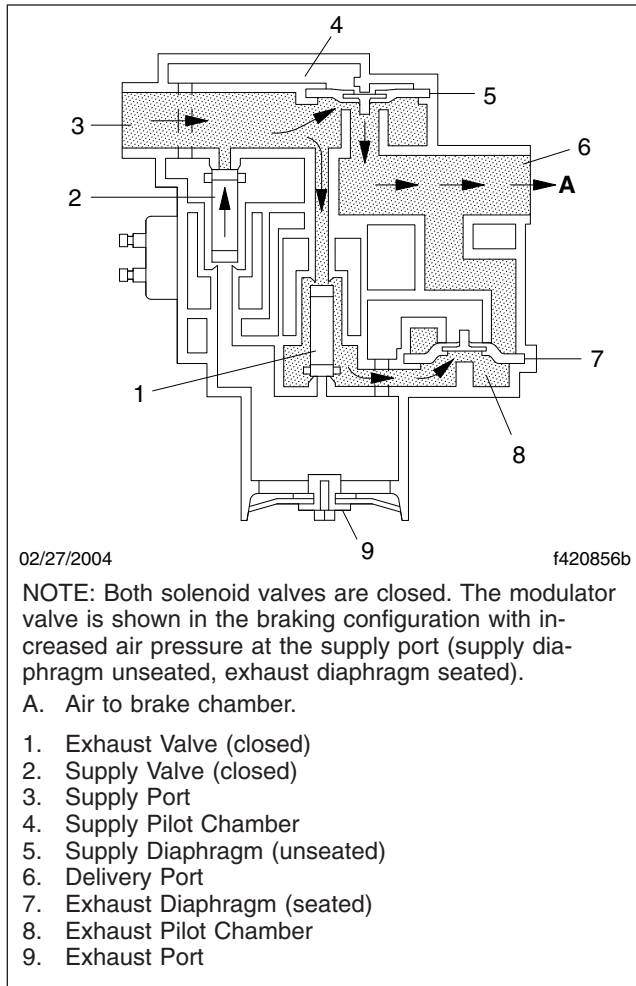

Fig. 5, Modulator Valve, Normal Brake Control (brake applied)
Each modulator valve assembly includes two solenoid control valves (one supply and one exhaust) and two diaphragms. See Fig. 5.
- When the brakes are applied, both solenoid valves in the ABS modulator valve are closed (de-energized). See Fig. 5.
The last ABS function is the reapply brake control. To achieve maximum braking, the ECU determines when to reapply the air pressure that the pedal control valve is delivering. When appropriate, both ABS solenoid valves are closed, which returns the system to the normal brake control state shown in Fig. 5.